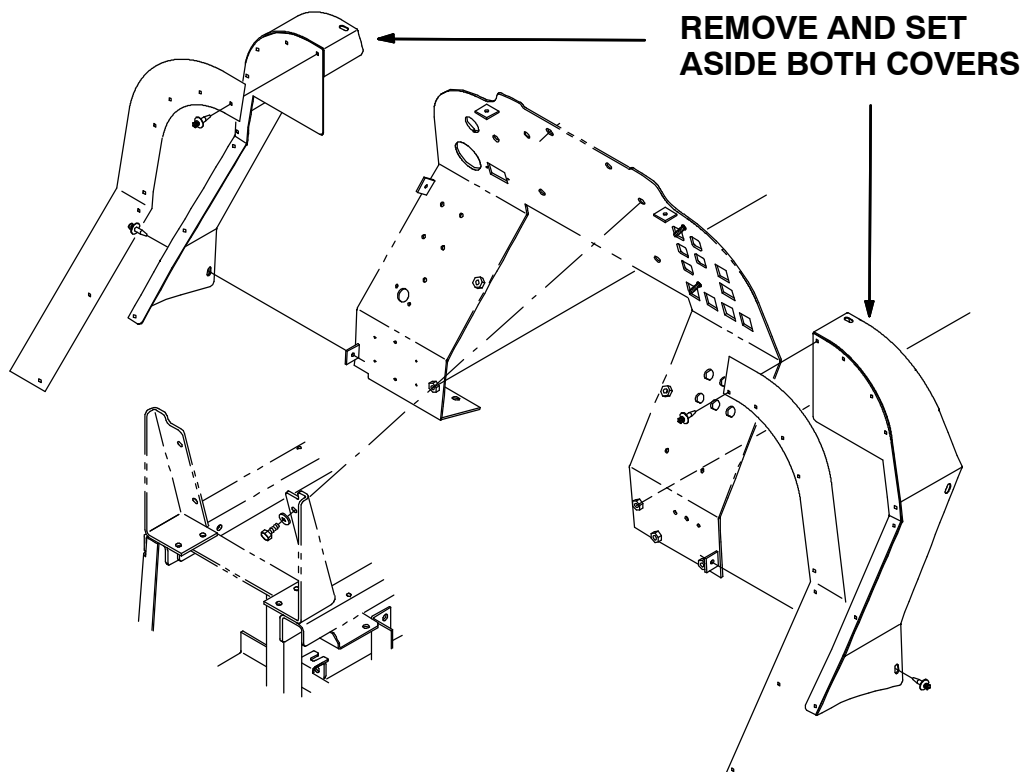

FIG. 1 - FRONT PANEL BREAKDOWN
(Refer to FIG. 1, 2 and 3)
3. Remove and set aside the right and left hand cover plates. (Refer to FIG. 1)
7. Replace the right and left hand cover plates. (Refer to FIG. 1)